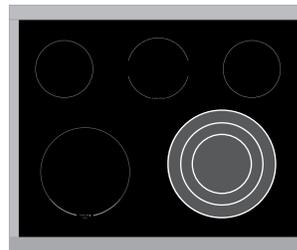
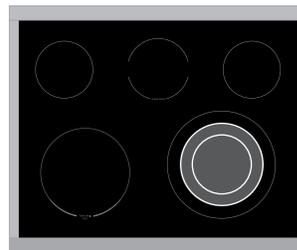
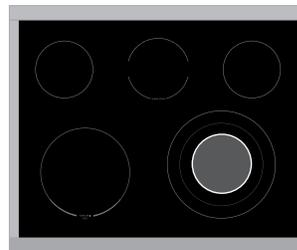

Figure 1 - Heating with all portions*
Figure 2 - Heating with the two inner portions*
Figure 3 - Heating with inner portion only*
2. Push in and turn the surface control knob clockwise to begin heating all, the inner, middle and outer portions of the element (Marked triple - see figure 1). If the two inner heating portions are needed turn the knob at position marked double (Marked double - see figure 2). If only inner heating portion is needed for smaller cookware, push in and turn the knob counterclockwise (Marked single - see figure 3).